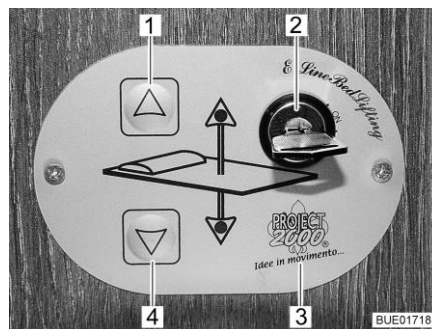

Fig. 51 Control unit
The pull-down bed is raised or lowered using the buttons (Fig. 51,1 and 4) on the control unit (Fig. 51,3). The control unit is protected against unauthorized use with the key switch (Fig. 51,2).
- Turn the key in the key switch (Fig. 51,2) by 90° in a clockwise direction to position "On". The control unit (Fig. 51,3) is activated.
- Press the arrow key (Fig. 51,4) and keep it pressed until the pull-down bed has moved down into the desired position.
- Press the arrow key (Fig. 51,1) and keep it pressed until the pull-down bed has moved down into the final upper position.
If it is no longer possible to move the pull-down bed with the arrow keys (Fig. 51,1 and 4), first of all check the fuses (see section 8.9.1). If the fuses are okay and it is still not possible to move the pull-down bed, the pull-down bed can be operated manually in emergency operation.